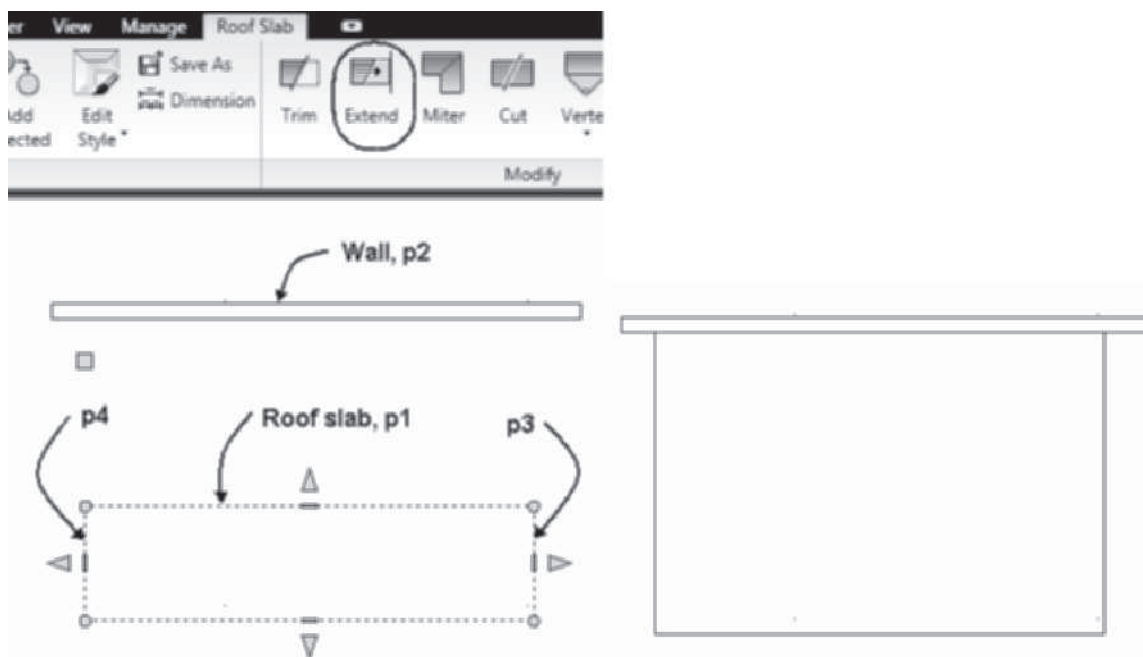

FIGURE 7.38 *Extend Roof Slab used to extend the roof slab*
When you select a slab, right-click, and choose **Extend** from the shortcut menu, you are prompted to select the object to extend and the edges to lengthen. In the following command sequence, the roof slab was extended to the wall as shown in Figure 7.38.
*(Select a roof slab at p1 as shown in Figure 7.38 and choose **Extend** from the Modify panel of the Roof Slab contextual tab. Respond to the following command line prompts.)*
Select an object to extend to (a slab or wall): *(Select the wall at p2 as shown at the left in Figure 7.38.)*
Select first edge to lengthen: *(Select the roof slab at p3 as shown at the left in Figure 7.38.)*
Select second edge to lengthen: *(Select the slab at p4 as shown at the left in Figure 7.38. Wall is extended as shown at the right in Figure 7.38.)*